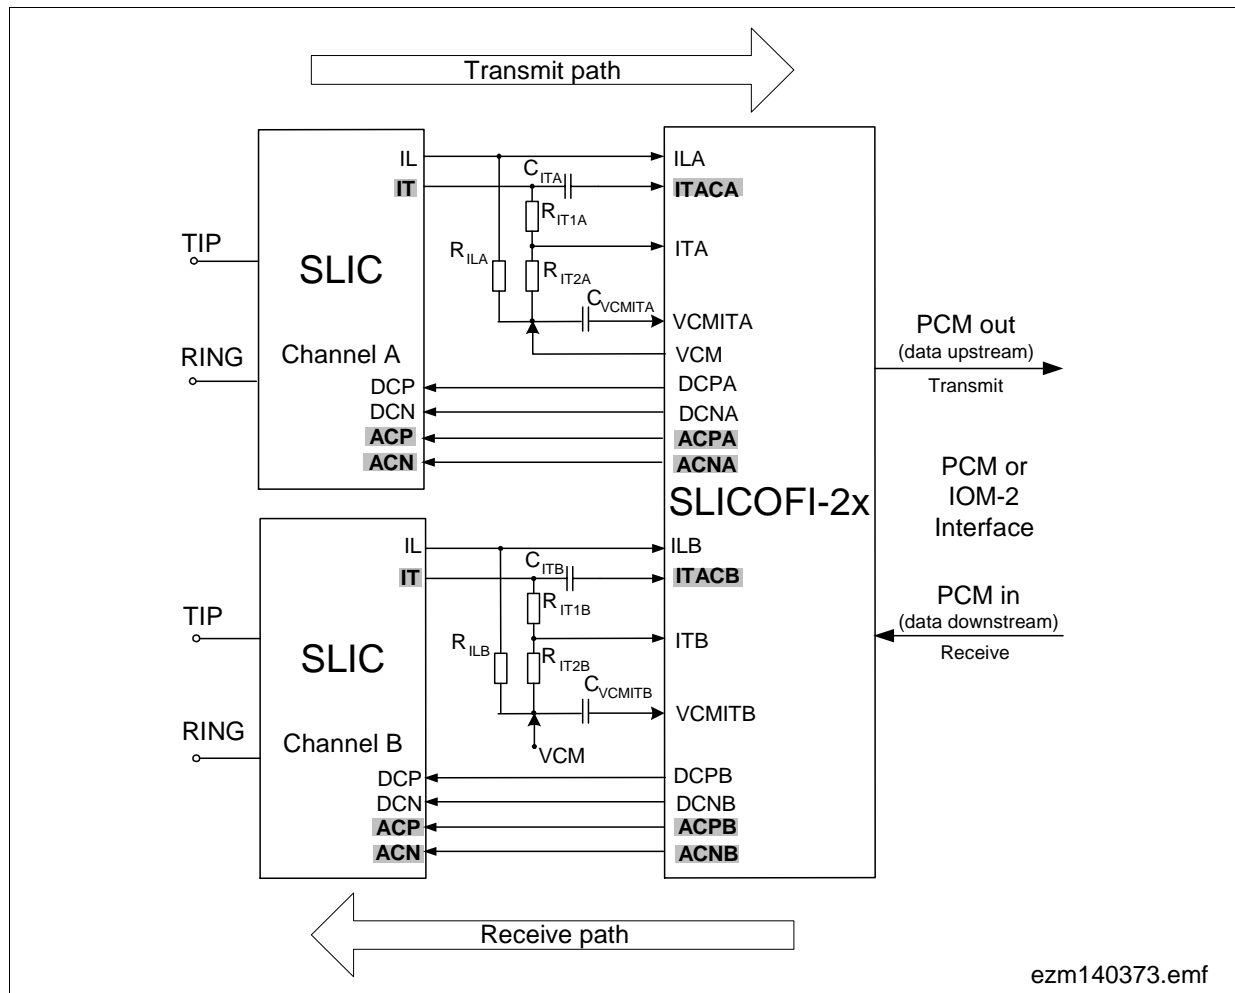

Figure 22 Signal Paths - AC Transmission
SLICOFI-2x uses either an IOM-2 or a PCM digital interface. In receive direction, *SLICOFI-2x* converts PCM data from the network and outputs a differential analog signal (ACP and ACN) to the SLIC, that amplifies the signal and applies it to the subscriber line. In transmit direction, the transversal (IT) and longitudinal (IL) currents on the line are sensed by the SLIC and fed to the *SLICOFI-2x*. A capacitor separates the transversal line current into DC (IT) and AC (ITAC) components. As ITAC is the sensed transversal (also called metallic) current on the line, it includes both the receive and transmit components. *SLICOFI-2x* separates the receive and transmit components digitally, via a transhybrid circuit. **Figure 22** shows the signal paths for AC transmission between the SLICs and *SLICOFI-2x*: